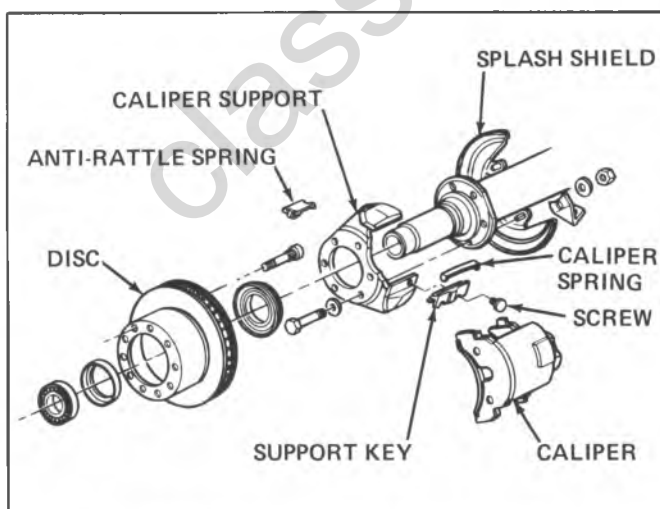

Fig. 5-32--Bendix Rear Disc Brake Assembly
6. Remove the inboard shoe from the steering knuckle or rear caliper support (fig. 5-32). Remove and discard the inboard shoe clip. Remove the outboard shoe from the caliper. It may be necessary to tap the shoe to loosen it in the caliper housing.